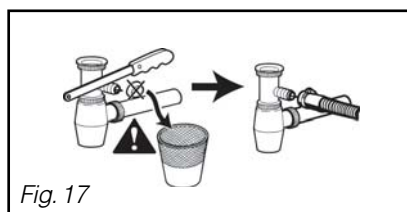

Fig. 17
- Or a sink trap (Fig. 17).
When connecting to a trap, you must remove the filler plug. Then press home the rubber tip. If necessary, add a clamp connection (Fig. 17).